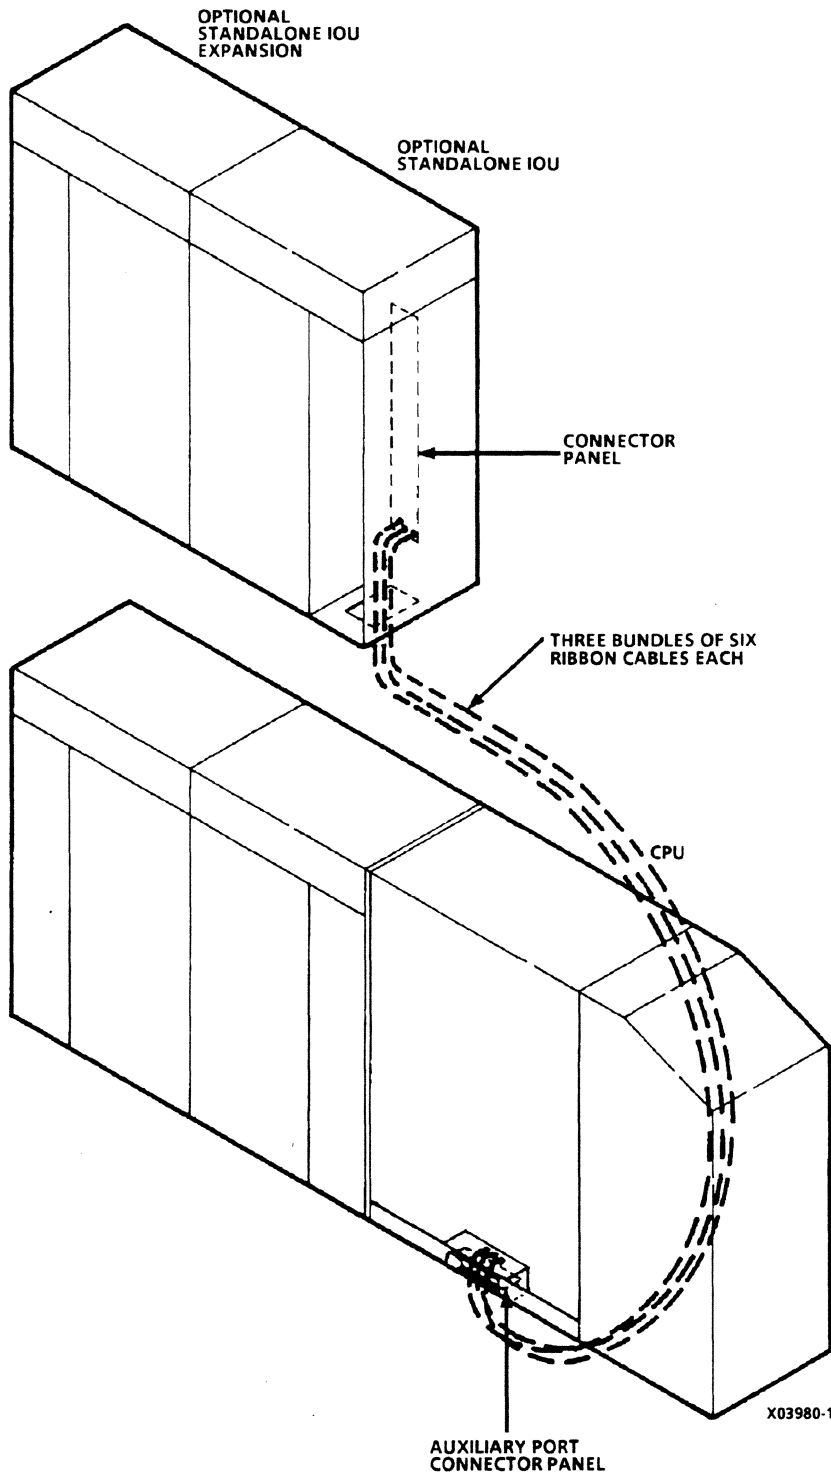

Figure 2-22. Place CPU to IOU Cable Bundles
- 4. Place three ribbon cable bundles (shipped with equipment) beneath raised floor between CPU and standalone IOU (figure 2-22).